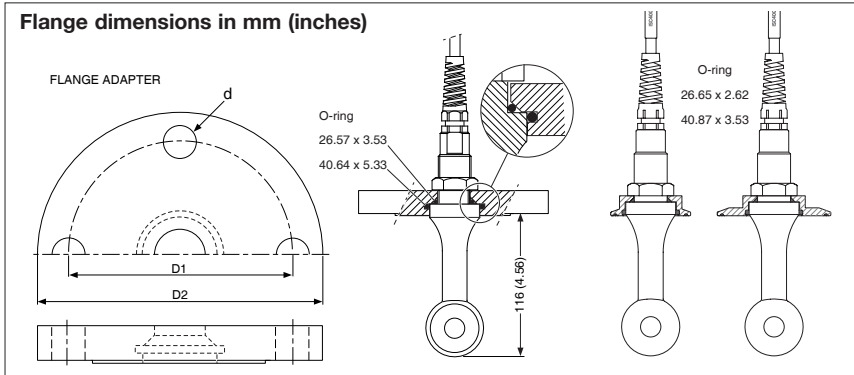

Fig 6: Option /SFA, /SFD, /S2W, /STW
3.1.1 Installation of ISC40G(S)-GG (TG) with flange adapters
The ISC40G(S)-GG (TG) sensor is supplied with a flat Viton sealing gasket for compatibility with existing installations. When using the sensor in combination with the new fittings, which are improved by the addition of O-ring seals (see figure 6), the flat Viton gasket should be discarded.